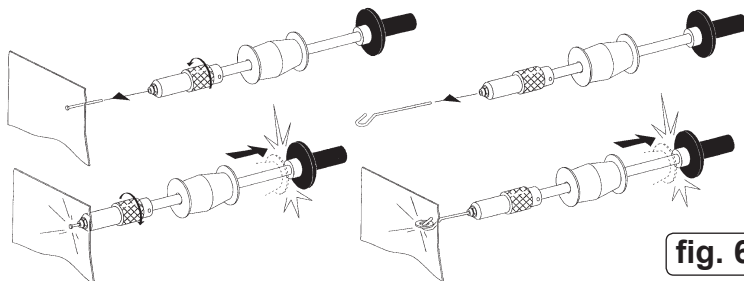

fig. 6
- 5.2.1. Grip the nail in the slide hammer (fig. 1.10) spindle and then operate the striking hammer until the dent is pulled out. To pull a washer, grip the washer hook (fig. 1.9) in the spindle and hook the washer. See fig. 6.